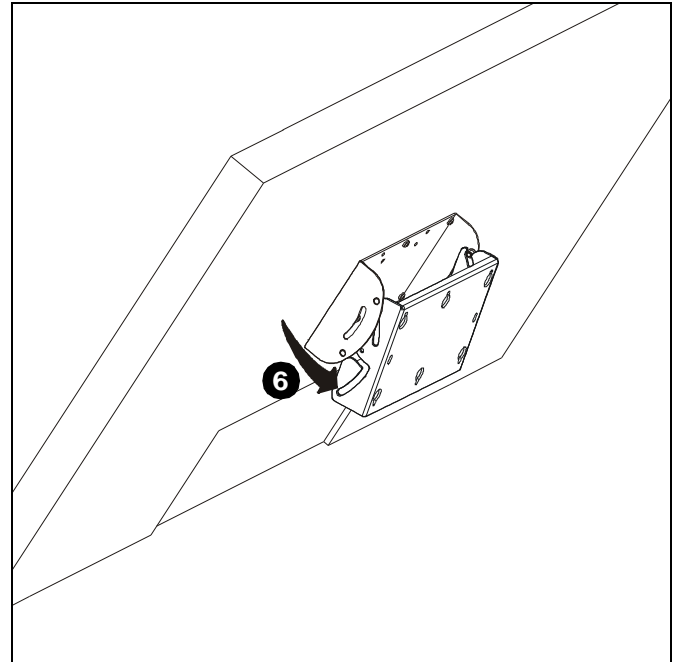

Figure 10
6. Position display so that lower screws may be inserted into lower slots on wall bracket. (See Figure 10)